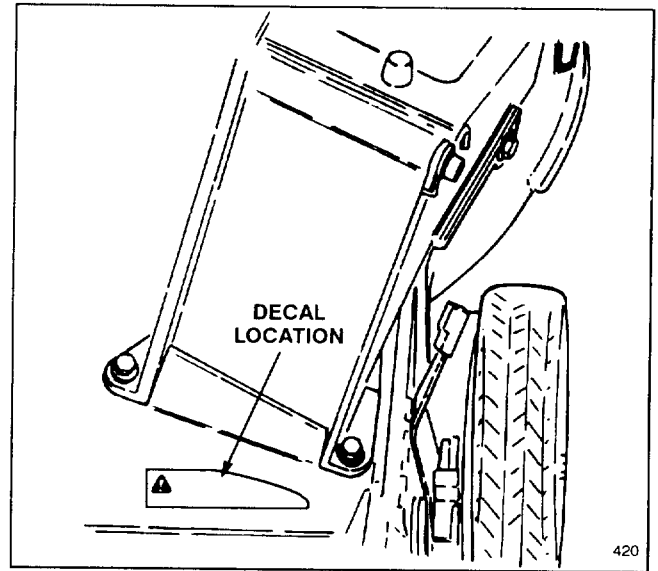

Figure 5
2. Install decal in area shown in Figure 5. **Do not place bagging decal over model/serial number decal.**